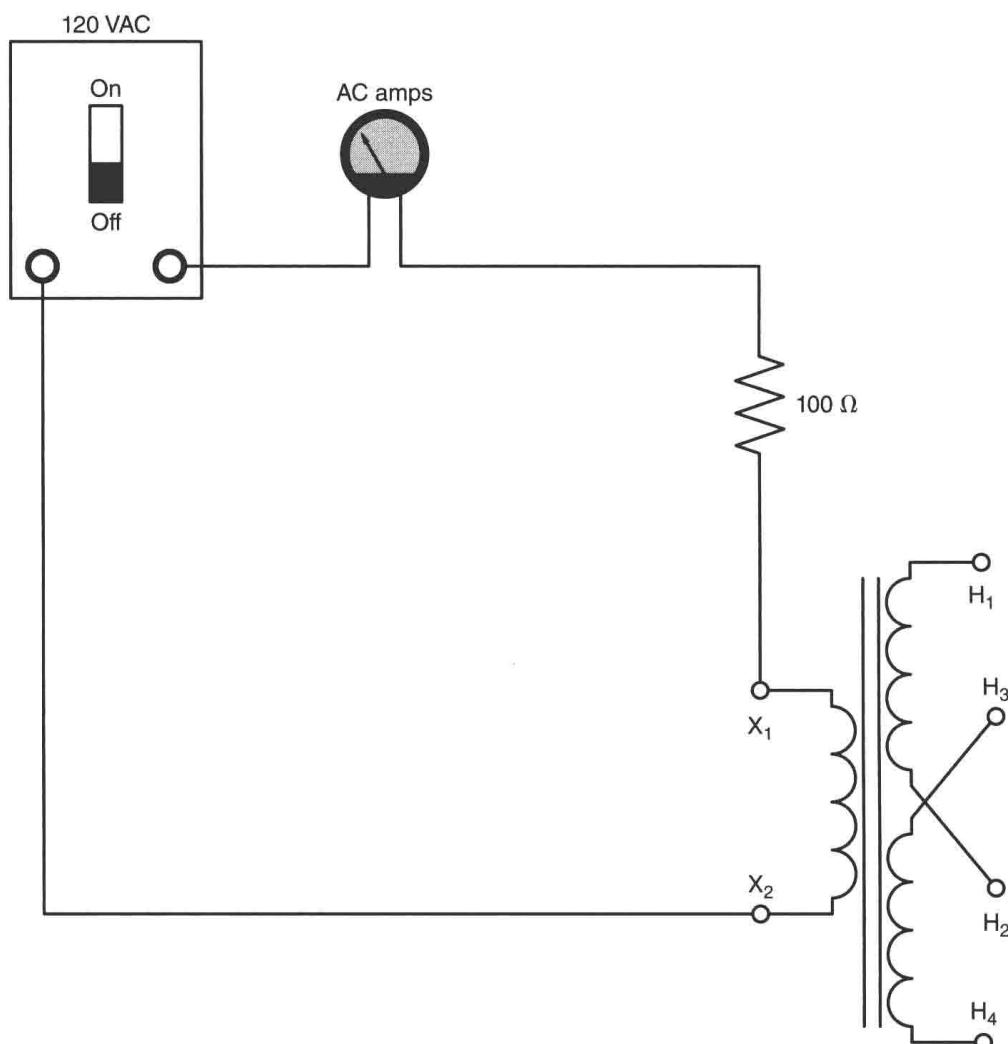

Figure 11-5 Connecting an RL series circuit.
1. Connect the circuit shown in Figure 11-5. NOTE: During this experiment the H terminals of the transformer will provide a step-up in voltage. Be careful not to come in contact with these terminals.